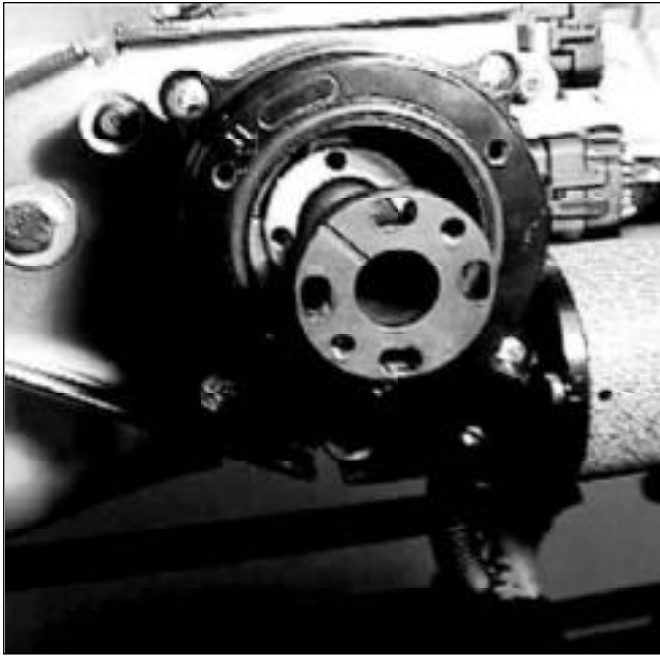

Fig. 7-16 . Remove the shift adapter.
23. Remove the shift shaft adapter from the actuator, figure 7-16.